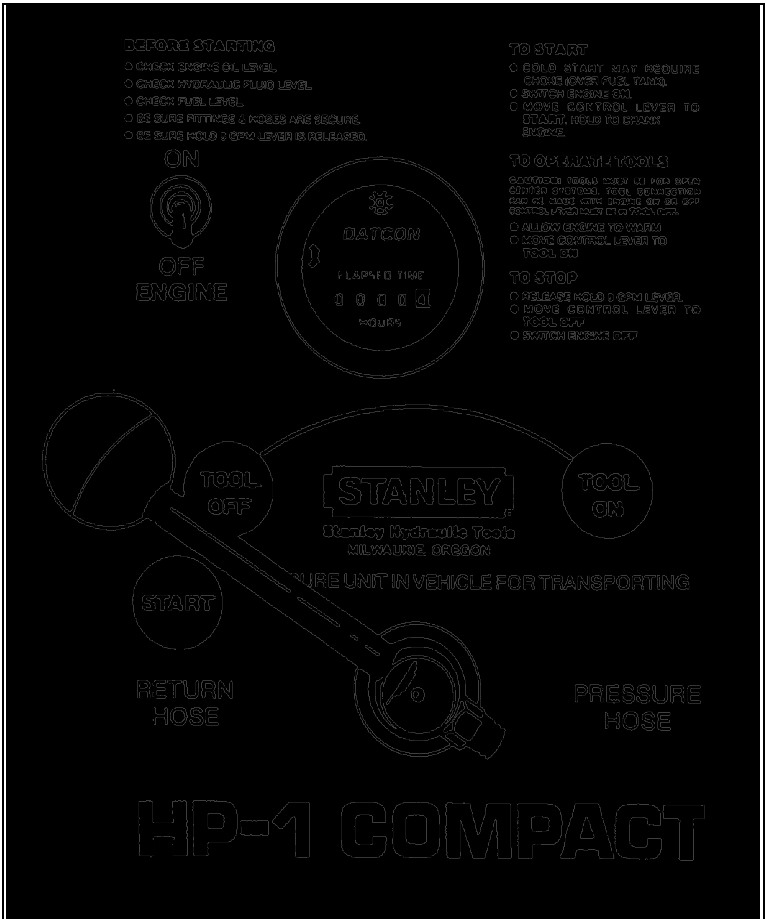

Fig 6-2-4 HP-1 Operating Controls
- b. move the control lever to **TOOL OFF** (Fig 6-2-4);